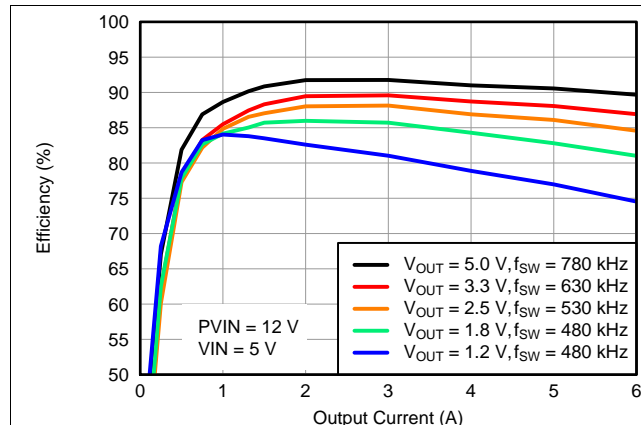
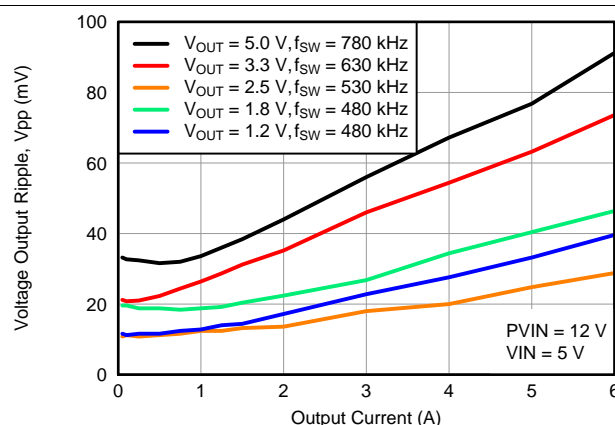
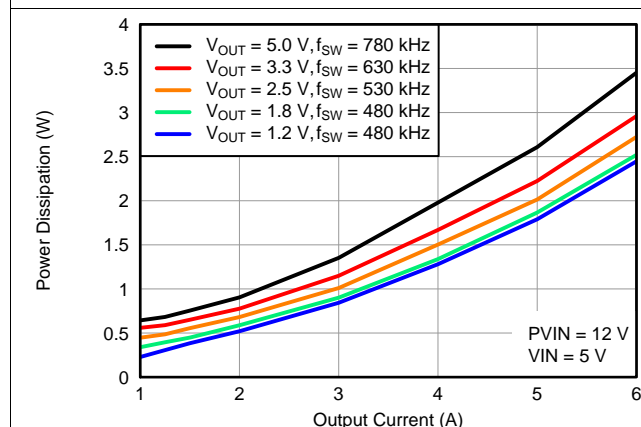

Figure 11. Efficiency vs. Output Current
Figure 12. Voltage Output Ripple vs. Output Current
Figure 13. Power Dissipation vs. Output Current
- (1) The electrical characteristic data has been developed from actual products tested at 25°C. This data is considered typical for the converter. Applies to Figure 11, Figure 12, and Figure 13.